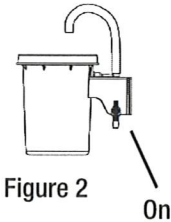
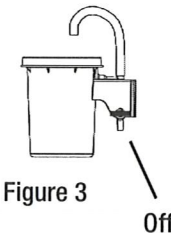

Figure 2
Figure 3
4. Make sure stopcock is in OFF position. (Figure 3)
Note: Stopcock is ON when vertical (Figure 2) and OFF when horizontal (Figure 3).